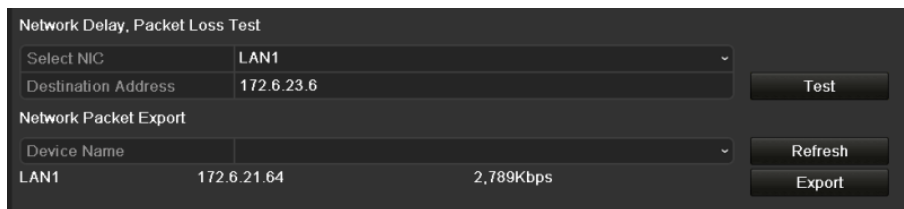

Figure 11-25 Network Detection Interface
Step 2 Click the **Network Detection** tab to enter the Network Detection menu, as shown in Figure 11-25.